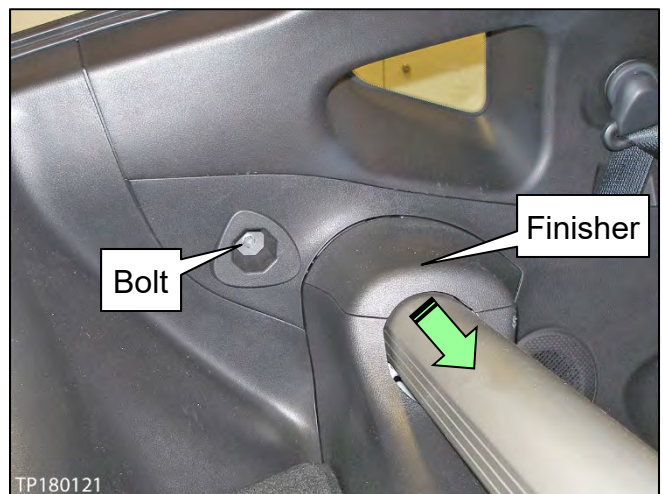

Figure 17
15. Remove the LH and RH rear side finisher mounting bolts (see Figure 17).
16. Remove the LH and RH rear parcel shelf side finishers (see Figure 17).